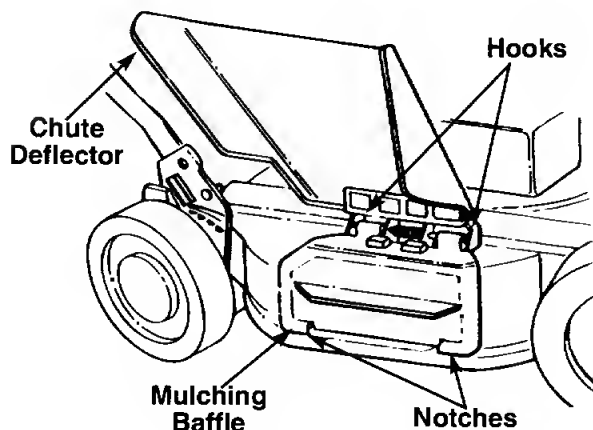

Figure 5
d. Optional mulching baffle (Figure 5)